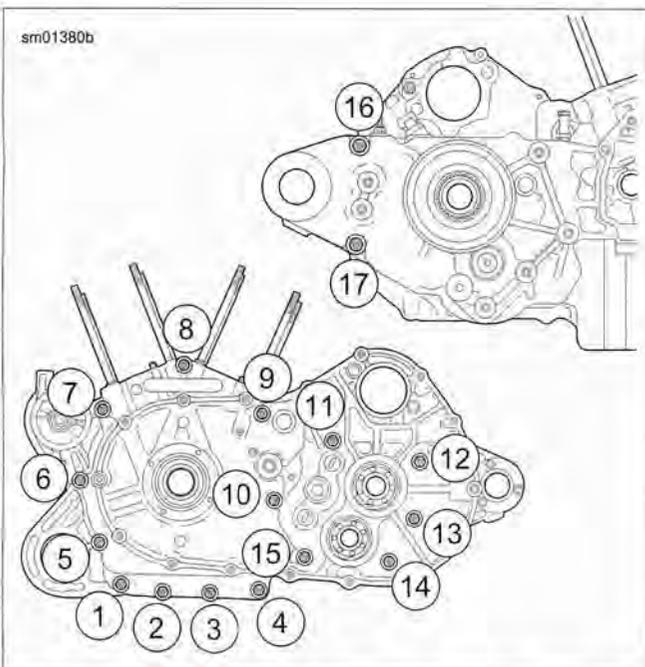

Figure 5-97. Crankcase Fastener Torque Sequence
- e. See Figure 5-97. Apply several drops of LOCTITE 262 (red) to last few threads of each crankcase fastener and install fasteners in crankcase (insert eleven long and four short from left side, two long from right side), in locations shown.
- f. Tighten fasteners to 15-19 ft-lbs (20.3-25.8 Nm) in the sequence shown in Figure 5-97.